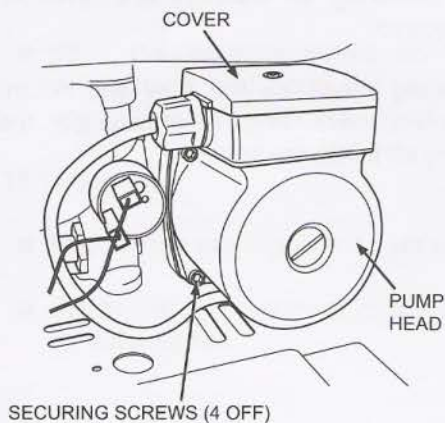

Figure 39
- Remove the screws shown in Figure 39.